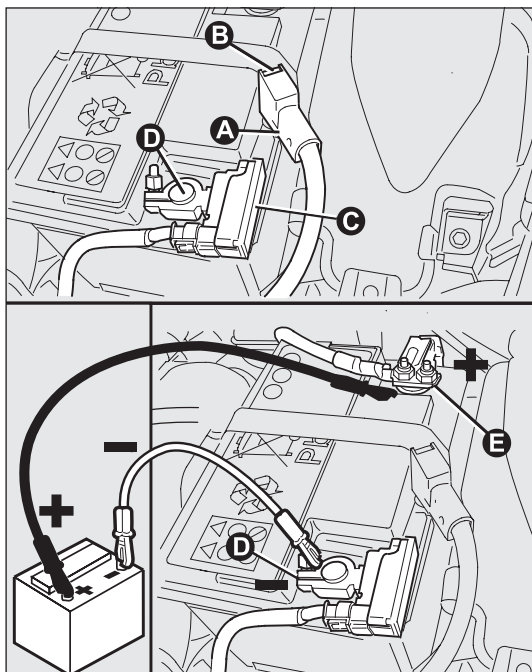

fig. 162
- ☐ proceed as follows: detach the connector A-fig. 162 (by pressing button B) from sensor C for monitoring the status of the battery installed on the negative battery pole D;